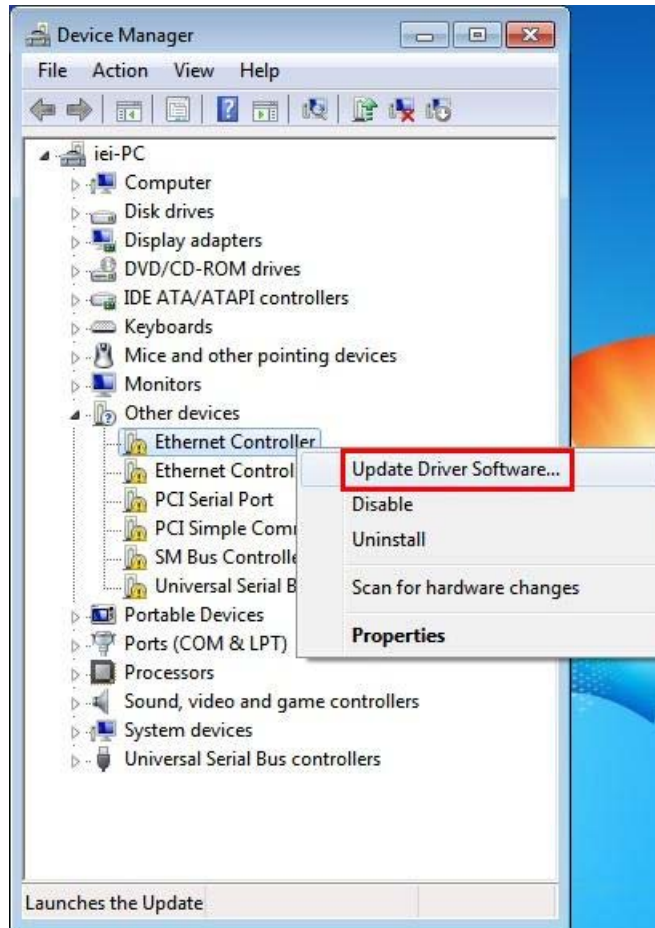

Figure 6-15: Device Manager List
Step 4: A list of system hardware devices appears (**Figure 6-15**).